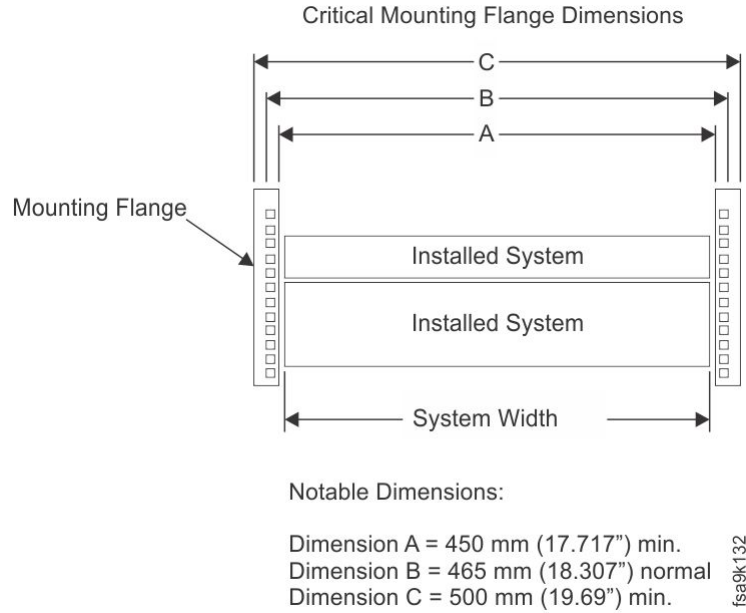

Figure 9. Critical mounting flange dimensions
- The front rack opening must be 535 mm (21.06 in.) wide for dimension C (the width between the outsides of the standard mounting flanges, see Figure 9 on page 19). The back rack opening must be 500 mm (19.69 in.) wide for dimension C (the width between the outsides of the standard mounting flanges).